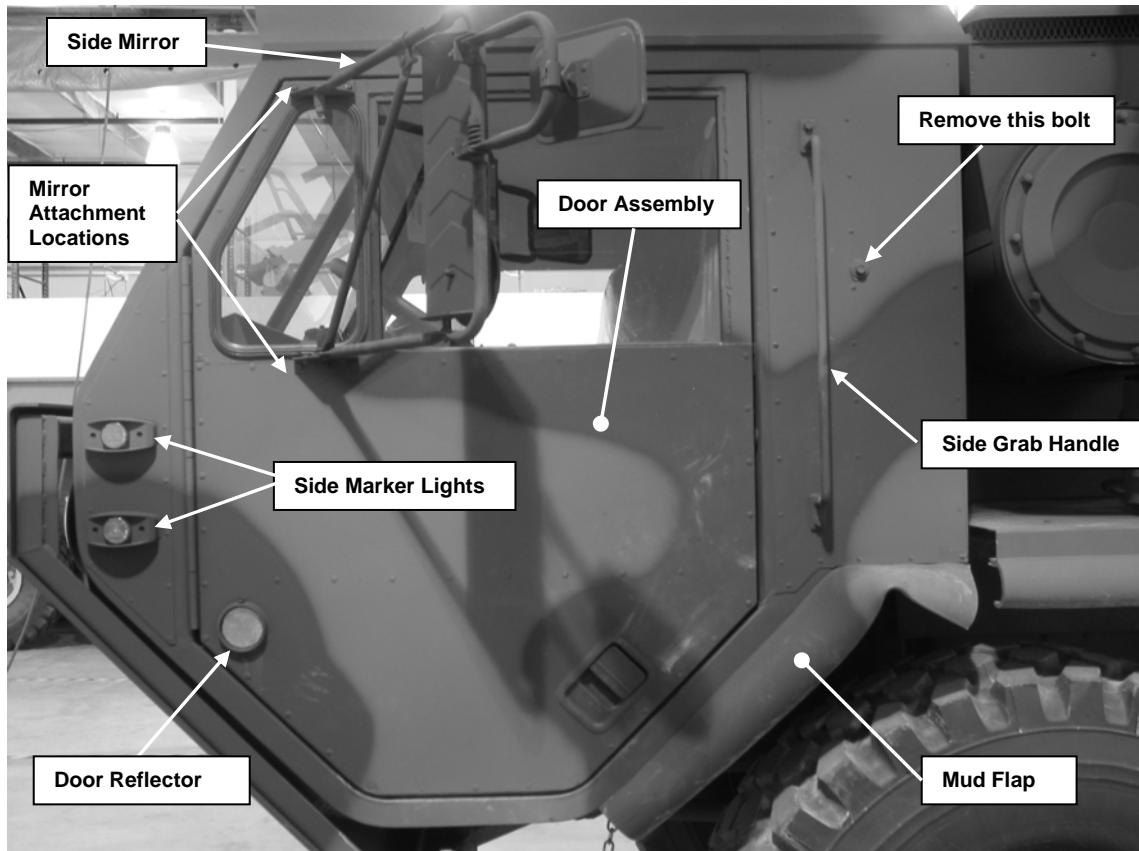

Figure 10. Side components to be removed.
- I) Remove both Side Mirrors from the vehicle doors. This is done by removing six bolts, three on the top and three on the bottom, as shown in Figure 10.
- p) Remove the Bolt located next to the Grab Handle, as shown in Figure 10. Do this on both sides of the vehicle.
- q) Remove the Mud Flaps from each side of the vehicle (see Figure 10). This is done by removing several bolts that are used to attach each one to the underside of the cab.
- r) Remove the Side Marker Lights on each side of the vehicle. This is done by removing the two screws and the cover plate on the front of the Side Marker Light (see Figure 10). Once the cover plate is removed, four additional screws can be seen that attach the base plate to the cab. Remove those screws. Mark and disconnect the connecting wires from the inside of the vehicle, and then feed the wires out through the hole in the cab and remove the light.